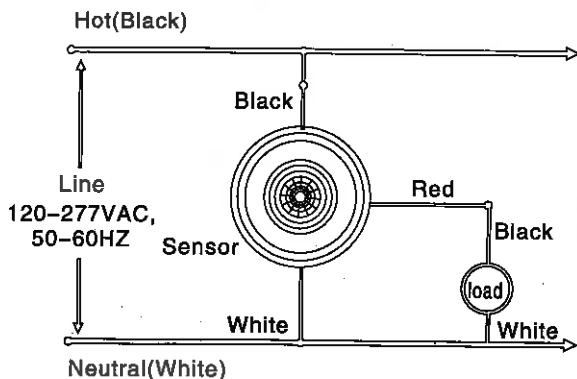

Fig2
4. Connect wires per appropriate WIRING DIAGRAM as follows: BLACK lead to LINE (HOT); RED lead to LOAD; WHITE lead to NEUTRAL. Twist strands of each lead tightly and, with circuit conditions, push firmly into the appropriate wire connector, screw connector on clockwise making sure that no bare wire shows below the connector. Secure each wire connector with electrical tape. (refer to Fig2)